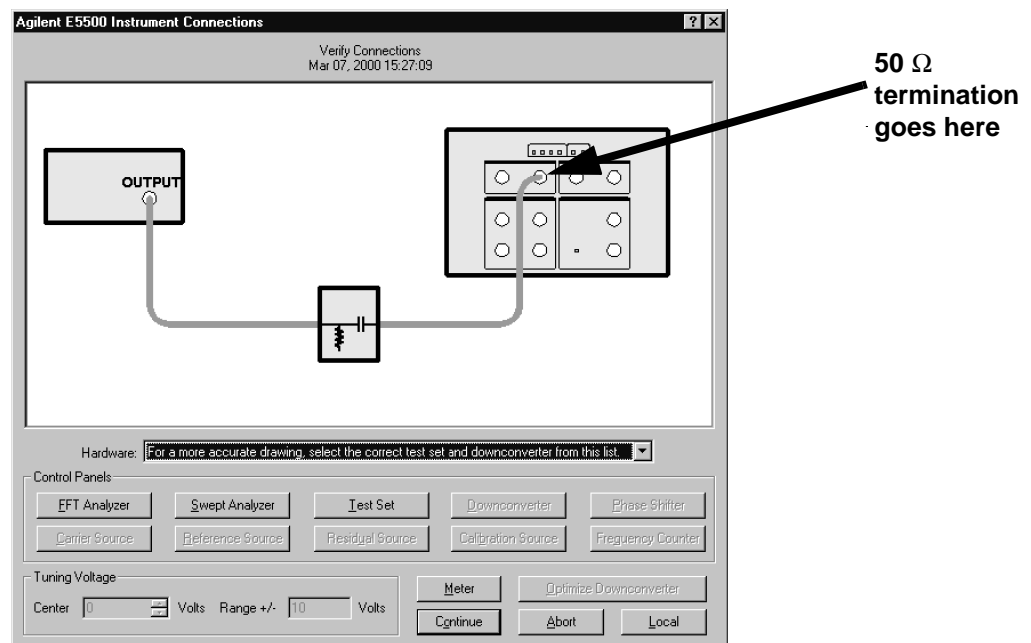

Figure 1-1 System Confidence Test Setup Diagram.
3. When the **Connect Diagram** dialog box appears, connect the 50 Ω termination provided with your system to the Agilent/HP 70420A Test Set's Noise Input connector. (See Figure 1-1.)